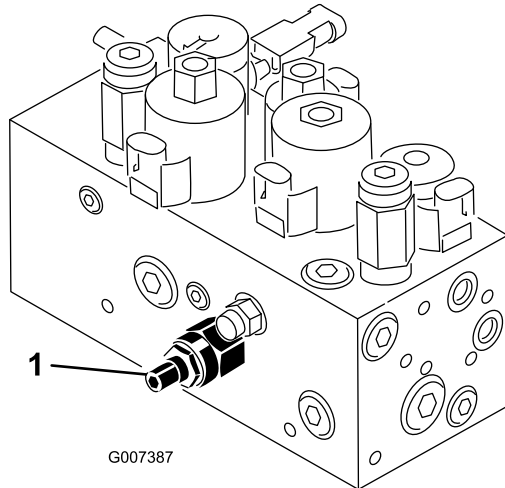

Figure 55
The cutting unit lift/drop circuit is equipped with a flow control valve (Figure 55). This valve is preset at the factory at approximately 3 turns open, but an adjustment may be required to compensate for differences in hydraulic oil temperatures, mowing speeds, etc. If an adjustment is required, proceed as follows:
1. Raise the seat and locate the flow control valve for the center pull frame (Figure 55) which is located on the side of the hydraulic manifold.